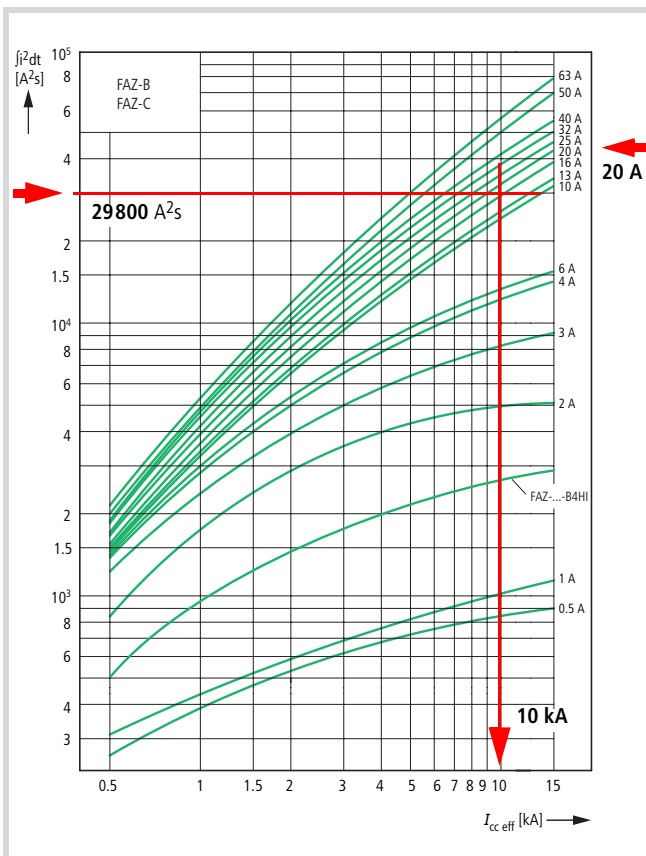

Figure 7: Cable protection with FAZ-3-B20
- Therefore the short-circuit current I_{cc} at the mounting location must not exceed 10 kA (→ characteristic curve figure 7).